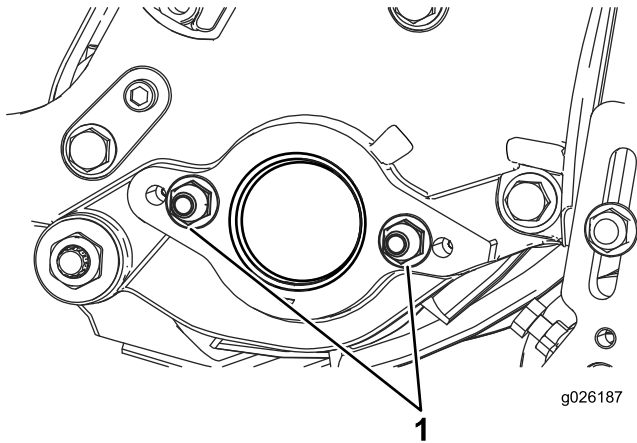

Figure 7
2. Remove the 2 lock nuts from the right side plate (Figure 7).
1. Lock nut (2)
4. Install the 2 reel motor mounting lock nuts to the left side plate of the cutting unit (Figure 7).